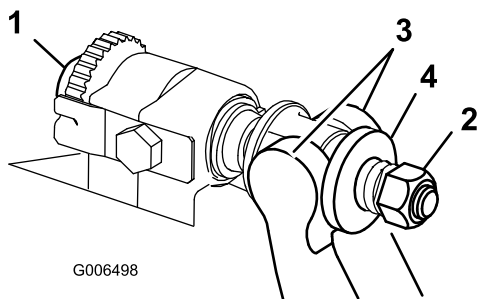

Figure 19
1. Turn bedbar adjuster screw, counterclockwise, to back bedknife away from reel (Figure 19).
2. Back out the spring tension nut, until the washer is no longer tensioned against the bedbar (Figure 19).